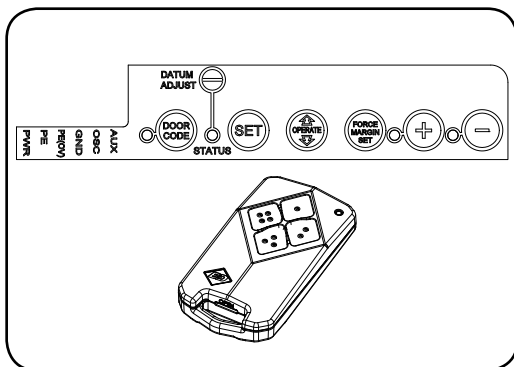

Fig. 27
- Press the DOOR CODE button and release. The DOOR CODE LED will illuminate to indicate the opener is in Code Learn mode. If a valid code is not stored within 15 seconds the opener will exit Code Learn (**Fig. 27**).